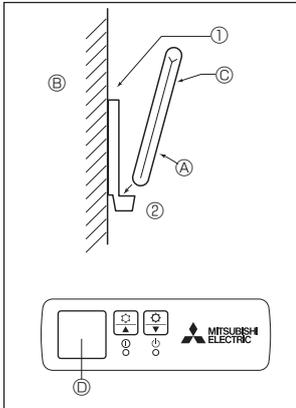
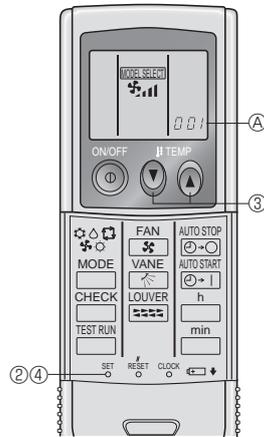

Fig. 6-2
Fig. 6-3
2) Installation method (Fig. 6-2)
- ① Attach the remote controller holder to the desired location using 2 tapping screws.
- ② Place the lower end of the controller into the holder.
3) Setting (Fig. 6-3)
- ① Insert batteries.
- ② Press the SET button with something sharp at the end. **MODEL SELECT** blinks and Model No. is lit.
- ③ Press the temp \uparrow \downarrow buttons to set the Model No. If you mistook the operation, press the ON/OFF Ⓞ button and operate again from procedure ②.
- ④ Press the SET button with something sharp at the end. **MODEL SELECT** and Model No. are lit for 3 seconds, then turned off.